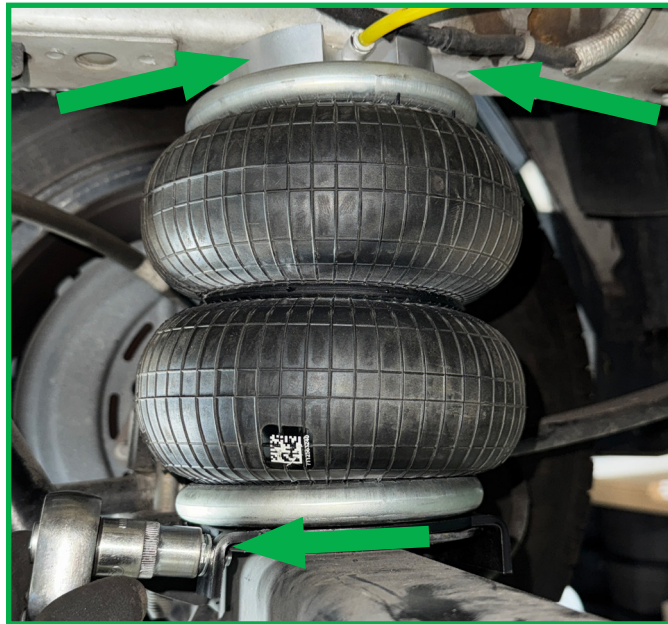

FIGURE 6
4. Tighten the headless bolts in the upper bracket with max. 13Nm torque to secure the air spring. Then fixate the lower bracket by tightening the two M8 screws with max. 15 Nm torque. (Figure 6)